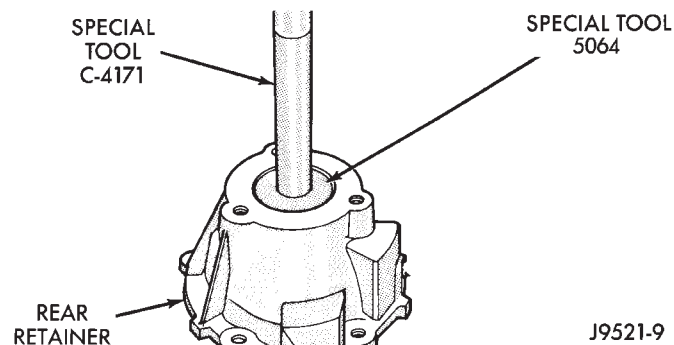

Fig. 68 Installing Mainshaft Rear Bearing In Rear Retainer
(10) Install and tighten front case-to-rear case attaching bolts to 27-34 N m (20-25 ft. lbs.) torque. **Be sure to install a washer under each bolt used at case dowel locations.**
(11) Install output bearing in rear retainer. Tap old bearing out of retainer with hammer and brass drift. Then install new bearing with Tool Handle C-4171 and Installer 5064 (Fig. 68).